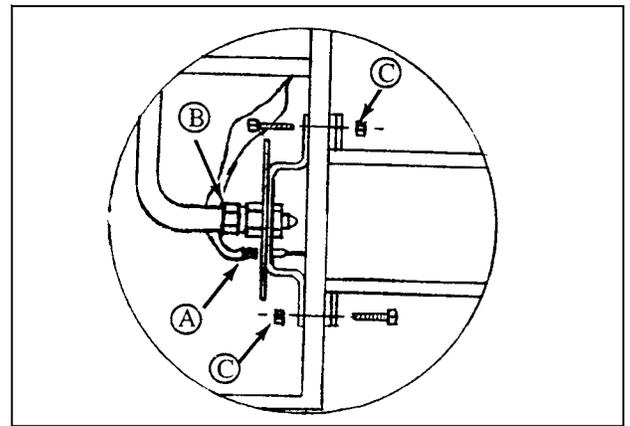

Figure 4.2
3. Unplug glo-bar lead (A) at the burner baffle plate. Break unions (B) and move gas manifold from orifice bracket. Gas orifice removal is not necessary. (See Figure 4.2).
4. Remove bolts (C) and lock-washers that fasten the orifice bracket to the control box. Pull burner housing off fixed bolts, rotate counterclockwise $\frac{1}{4}$ turn and remove (See Figure 4.2).